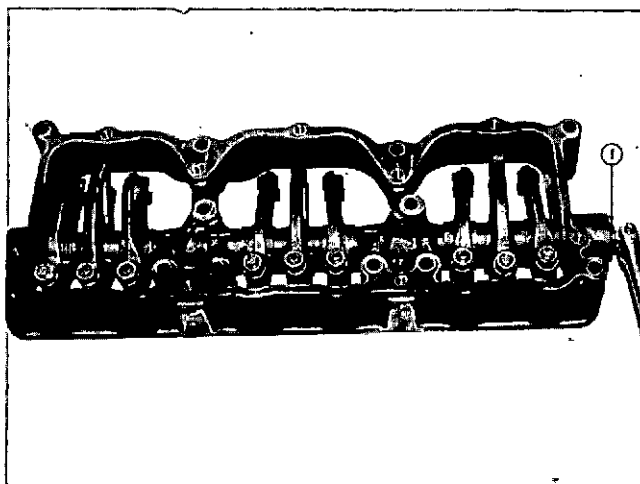

Fig. 3-1-1, V40302. Removing shaft retaining pipe plug
2. Remove pipe plug from end of rocker lever housing. Fig. 3-1-1.